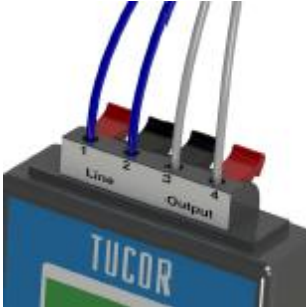

Figure 11
2. Connect the decoder (see Figure 11 & 12) by attaching the blue wires to terminals 1 and 2 and white wires to terminals 3 and 4. Press OK after screen in Figure 14 is displayed.